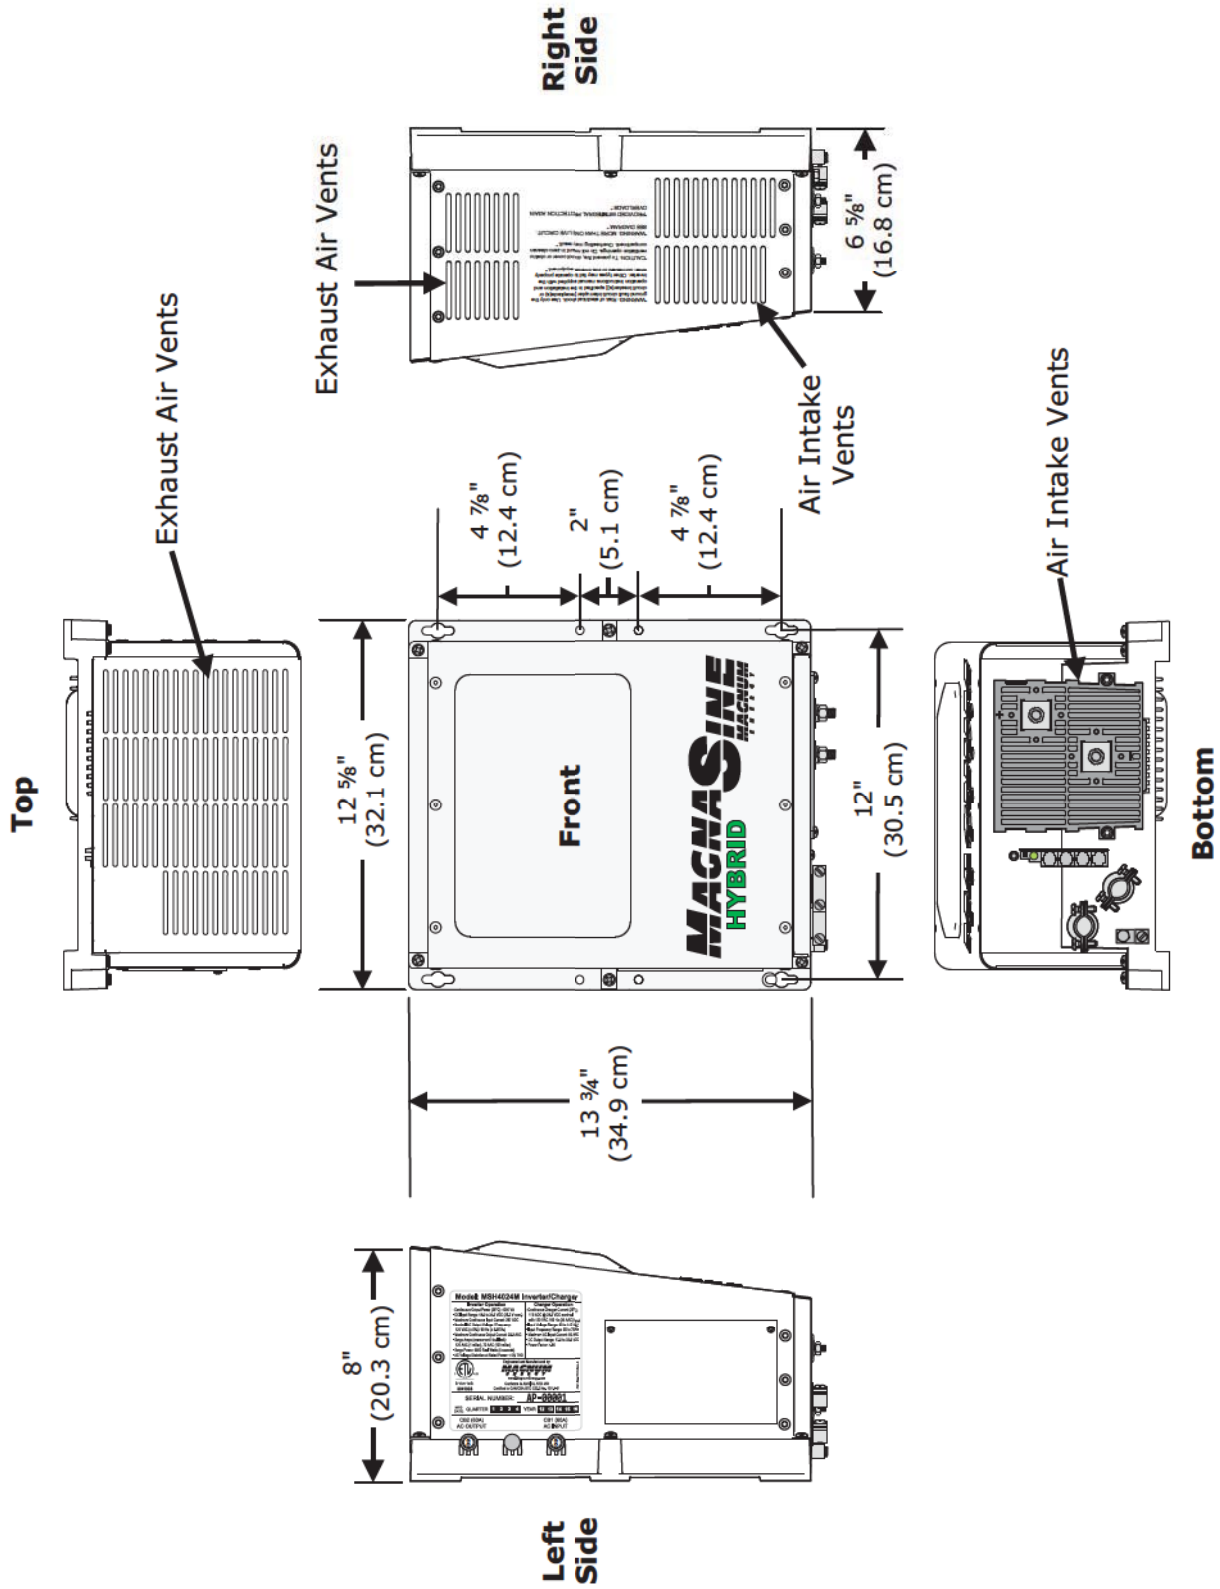

Figure 2-3, MSH-M Series Dimensions and Side References
- 9 **Intake Air Vents** – ventilation openings to pull in air to help keep the inverter cool for peak performance. The intake air vents are located on the front side and at the front on the right side; also see Figure 2-3 for the location of the air vents.
- 13 Exhaust Air Vents** – ventilation openings that allow heated air to be removed by the internal cooling fan. The exhaust air vents are located on the back side and at the rear on the right side; also see Figure 2-3 for the location of the air vents.
Accessible – Do not block access to the inverter’s remote control and accessory ports, as well as the inverter’s controls and status indicator. Allow enough room to access the AC and DC wiring terminals and connections, as they will need to be checked and tightened periodically. See Figure 2-3 for the MSH-M Series inverter/charger’s dimensions.
After determining the mounting position, refer to the physical dimensions as shown in Figure 2-3, or use the base of the inverter as a template to mark your mounting screw locations. After marking the mounting screw locations, mount the unit with appropriate mounting hardware.